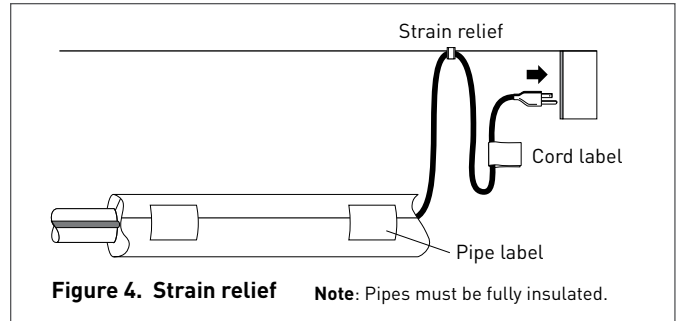

Figure 4. Strain relief **Note:** Pipes must be fully insulated.
- To prevent damage to the heating cable or cord, secure the power cord (cold lead) with a plastic cable tie, glass cloth tape, or duct tape as shown in Figure 4.